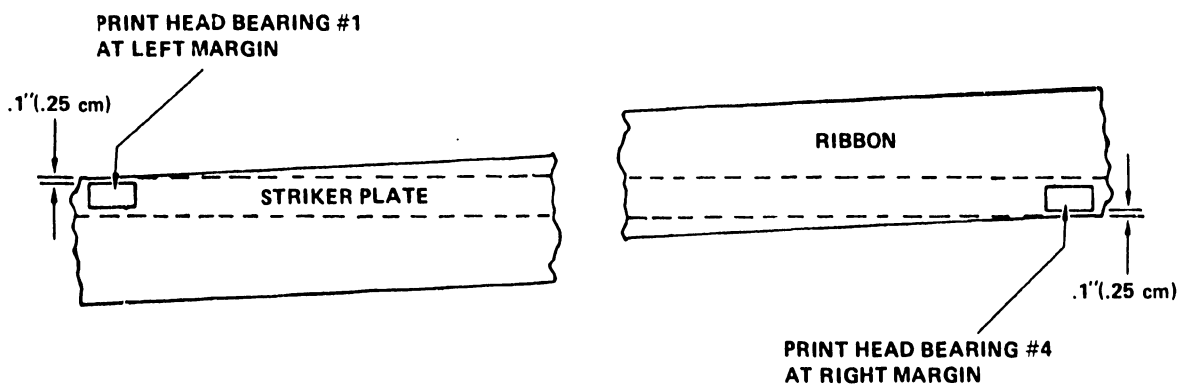

Figure 5-14. Ribbon Guide Post Adjustment
6. Using a small scaled ruler, measure the distance, at print head #1, from the top of the print head bearing to the top edge of the ribbon. This measurement should be approximately .1 inches (.25 cm). If it is not, the left ribbon guide post must be adjusted. See Figure 5-14.
8. At print head #4, measure the distance from the bottom of the print head bearing to the bottom edge of the ribbon. This measurement should also be approximately .1 inches (.25 cm). If it is not, right ribbon guide post must be adjusted. See Figure 5-14.